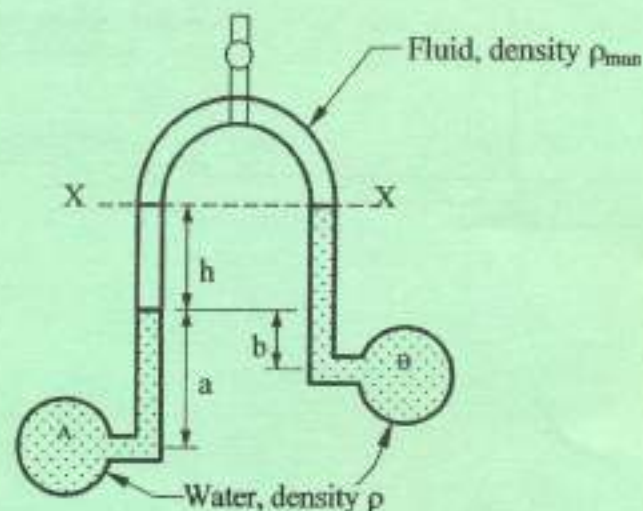

Fig 7
- (d) Figure 7 shows an inverted U-tube manometer used to measure the pressure difference between two points A and B in an inclined pipeline through which water flows. The difference of level  $h = 0.35m$ ,  $a = 0.3m$  and  $b = 0.2m$ . Determine the pressure difference between points A and B, if the top of the manometer is filled with: